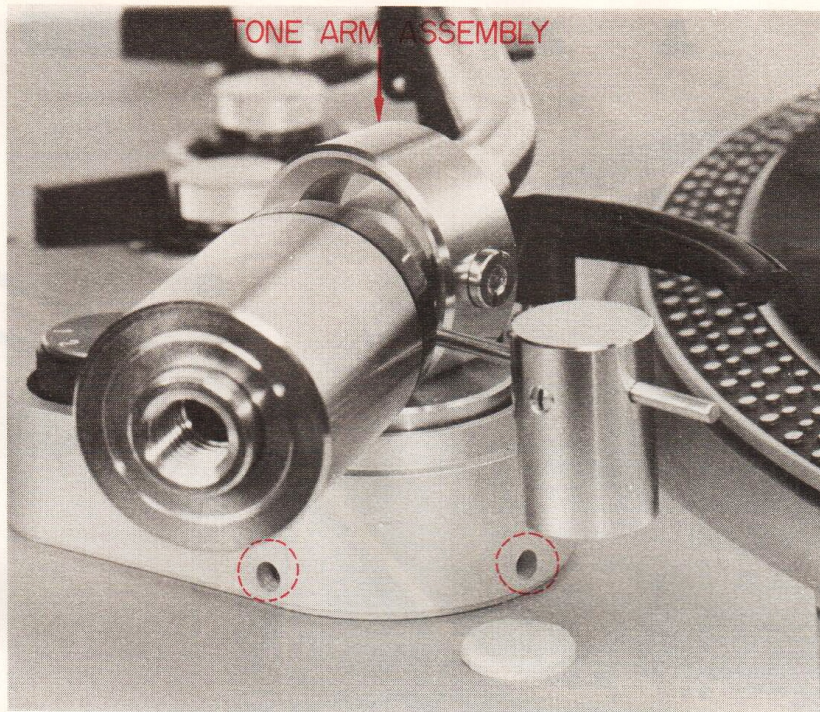

Fig. 5
(Refer to Figs. 5 and 6)
- 1) Use a minus driver as shown in Fig. 5 and loosen the two screws at the base of the tone arm assembly.